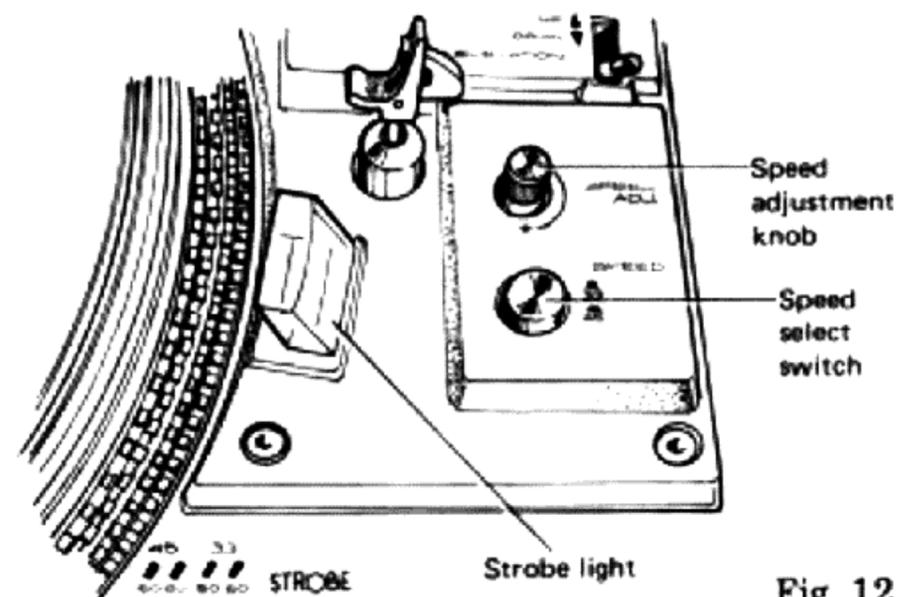

Fig. 12
2. Set the SPEED select switch to either "33" or "45", according to the speed of the record to be played (Fig. 12).